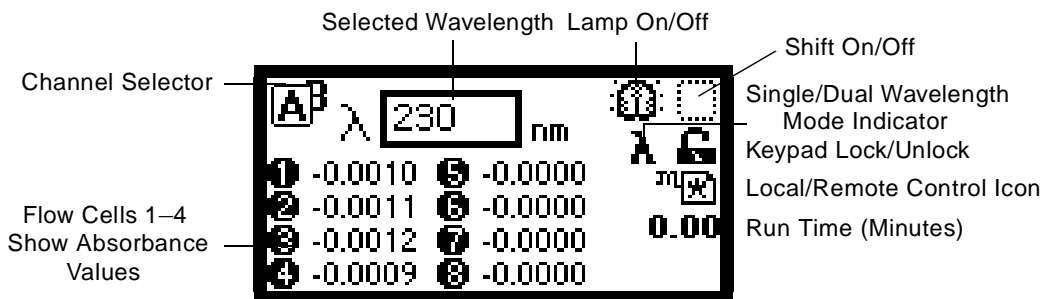
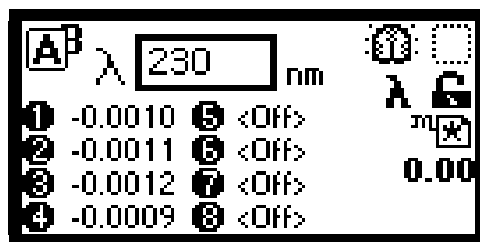
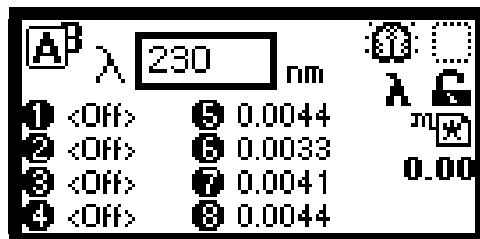

Figure 3-2 Home Screen Set to Monitor Flow Cells 1–8 at 230 nm
Figure 3-3 Home Screen Set to Monitor Flow Cells 1–4 at 230 nm
Figure 3-4 Home Screen Set to Monitor Flow Cells 5–8 at 230 nm
When it finishes initializing, the detector displays the Absorbance Home screen (Figure 3-2). See Section 3.2.3 for details about this and subsequent screens.
If one or more startup diagnostics fails, the detector beeps and displays an error message. For serious errors, it also displays “Error” in the Home screen’s Absorbance data fields (Figure 3-2).
The 2488 Detector incorporates a graphic display and keypad operator interface. After startup diagnostics run successfully, the detector displays the Absorbance Home screen (Figure 3-2).
The Home screen displays absorbance values, in absorbance units (AUs), at one or two wavelengths for flow cells 1–4 (Figure 3-3), 5–8 (Figure 3-4), or 1–8 (Figure 3-2), depending on how you configure the detector (see Section 5.2.2).
1. Press **HOME**. The Home screen appears (Figure 3-2).